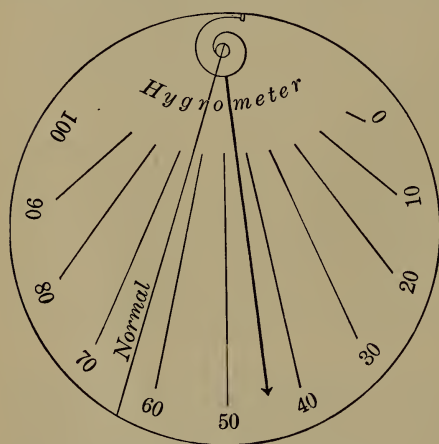

FIGURE 14.—THE HYGROMETER.
**25. The Hygrometer.**—An instrument used to measure the amount of water vapor in the air is called a *hygrometer*. Figure 14 shows a common form of the hygrometer. It consists of a small spring, a pointer, and a scale.